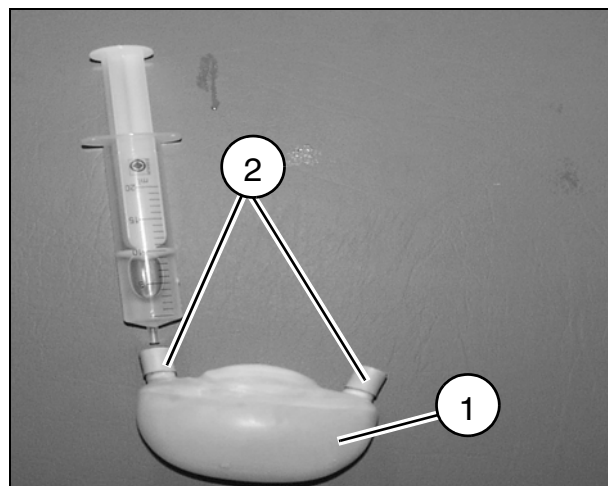

Fig. 6
- Fill the water bladder with water (approx. 100 - 120 ml, i.e. 5 - 6 syringes a 20 ml) (1/Fig. 6):
- Push the syringe needle through one of the valves (2/Fig. 6) and empty the contents of the syringe into the water bladder. The valve has a self-closing membrane.